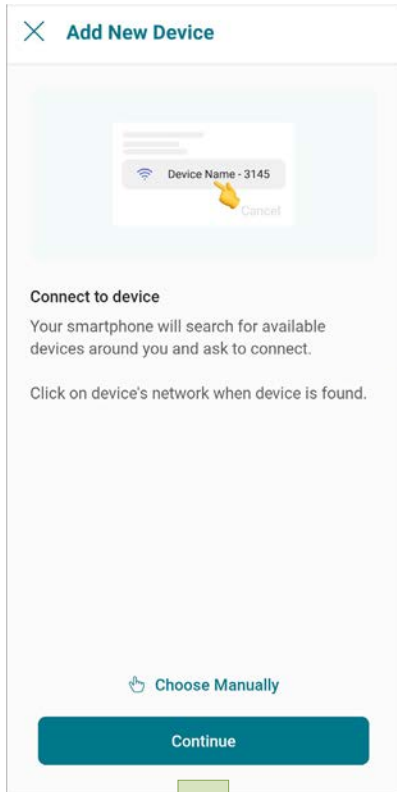

Figure 83. Connect with Android Smart Phone
3. **In Android:** Depending on your configuration, one or more devices will appear on the app. Select the HOTSPOT identifier that matches the unit's display as shown in **Figure 83**.